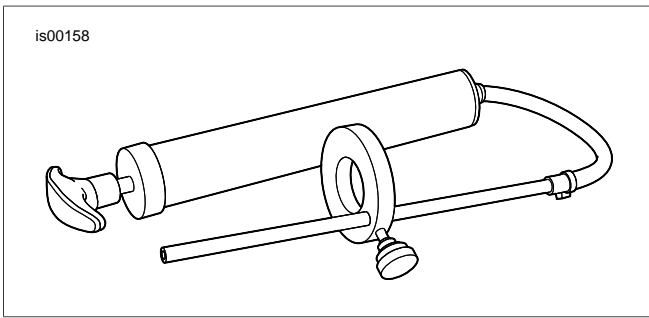

Figure 2. Front Fork Oil Level Gauge (HD-59000B)
- a. See Figure 2. Obtain the Front Fork Oil Level Gauge (Part Number HD-59000B).